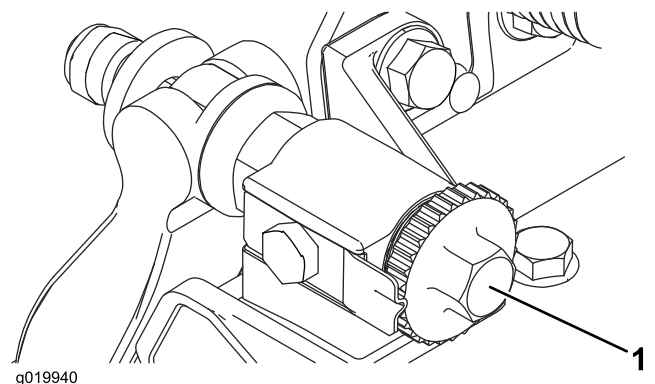

Figure 8
1. Position the cutting unit on a flat, level work surface. Turn the bedbar-adjusting screws counterclockwise to ensure that the bedbar does not contact the reel (Figure 8).